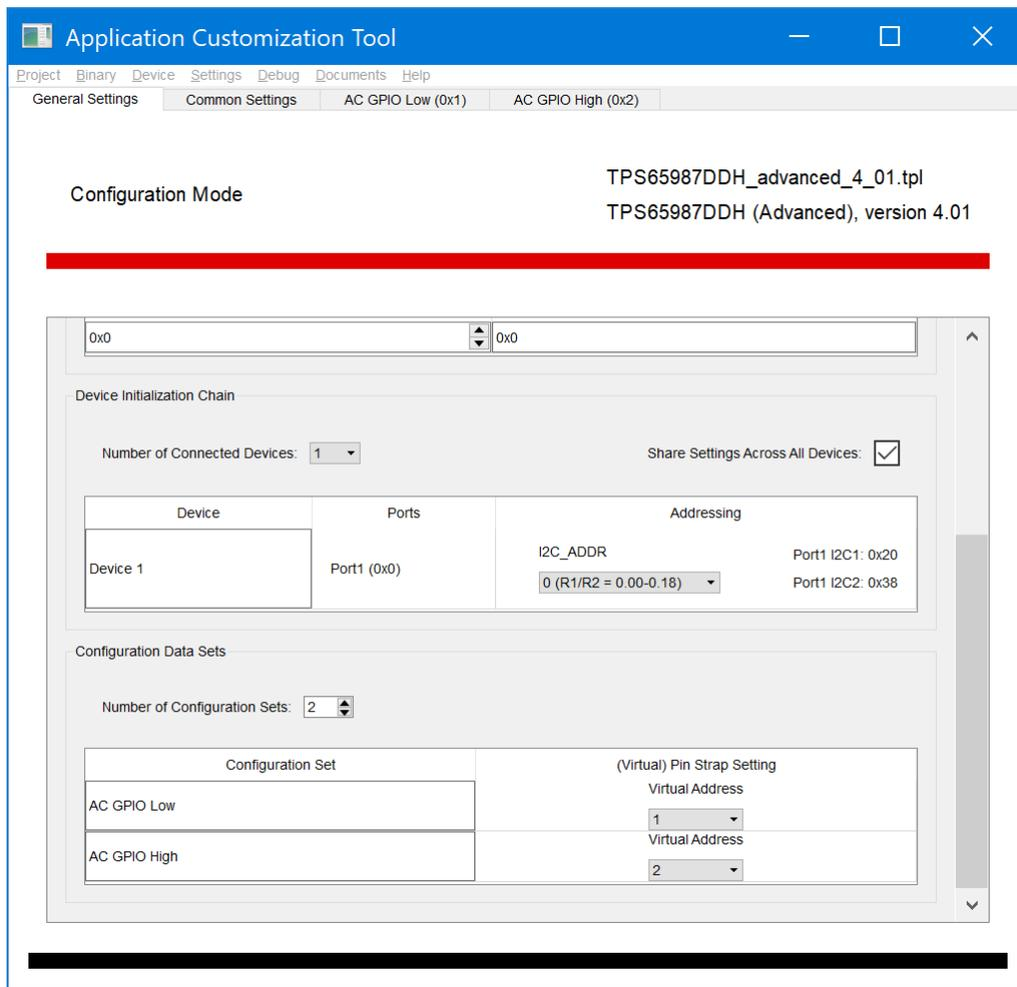

Figure 3-3. Number of Configuration Sets
2. Change *Number of Configuration Sets* in *General Settings* to 2, and then change *Virtual Device 1* to *AC GPIO Low*, and *Virtual Device 2* to *AC GPIO High* as shown in Figure 3-3.